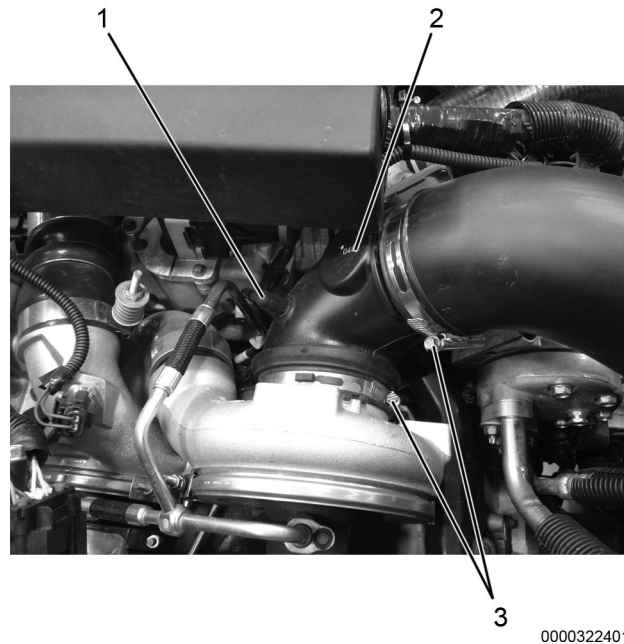

Figure 3. Turbo Inlet Elbow.
3. Clamp (2)
5. Disconnect boost line (Figure 3, Item 1) from turbo inlet elbow (Figure 3, Item 2).
6. Loosen hose clamps (Figure 3, Item 3) from inlet elbow. Remove inlet elbow.
12. Install inlet elbow (Figure 3, Item 2) to turbocharger and inlet duct. Tighten clamps (Figure 3, Item 3) securely.
13. Connect boost line (Figure 3, Item 1) to turbo inlet elbow.